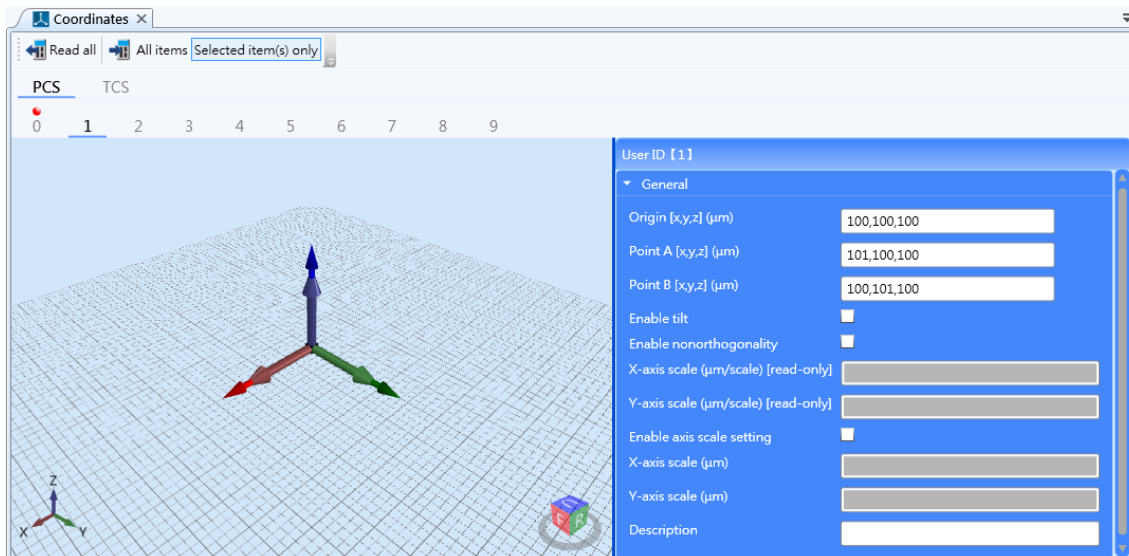

Figure 7.3.1.1 Example of teach PCS and three point method
Please go to **Coordinate** and observe the following steps to complete point teaching for PCS. See figure 7.3.1.1. Take PCS as the example. Two methods are available to input the point information.
2. Repeat Step 1 and continue to teach  $P_x$  and  $P_y$ . (See figure 7.3.1.1)